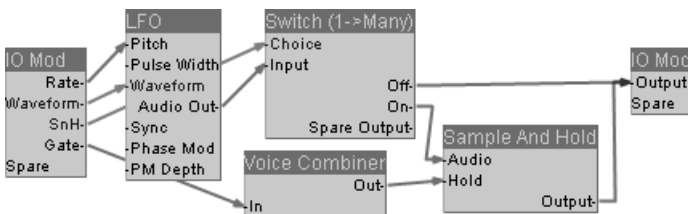

Figure 3.44: A monophonic S&H LFO
- ❖ **Combining an LFO and a Sample and Hold module can conjure interesting effects. Try this on for size: Insert a Sample and Hold module after the LFO and connect the Gate signal to the S&H module's Hold plug. Then it retriggers only when you hit a note. The LFO puts out a polyphonic signal. If you prefer a monophonic signal, use a Voice Combiner module to convert the Gate signal. Use an S&H module on a noise waveform to trigger random constant voltages in response to every note-on message. Figure 3.44 pictures a monophonic S&H LFO structure.**